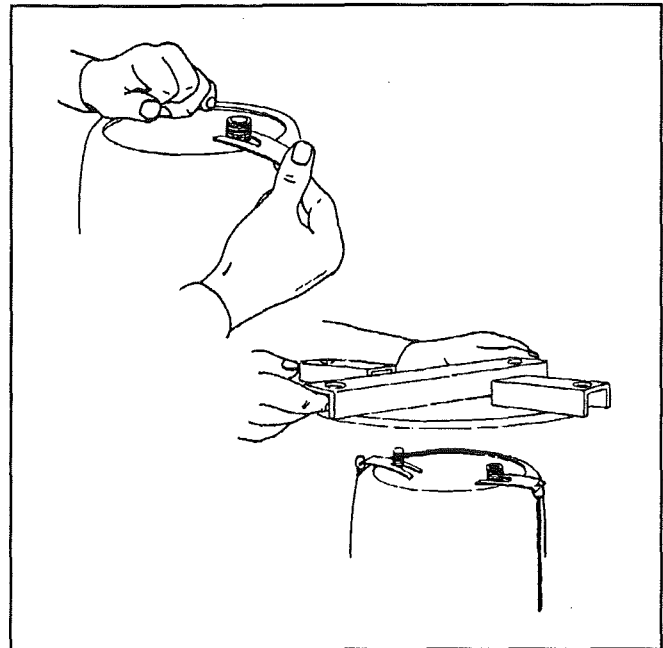

FIG. 14
5. Use tool #19-0002, place the bellows inside the tool and apply air pressure (90 psi/620 kPa) in order to seat the bellows assembly components (see figure 14, 15 and 16).